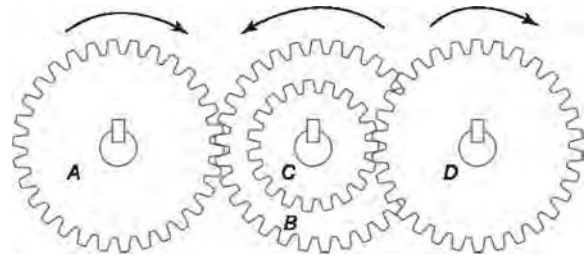

Figure 20.6
A **compound gear train** is shown in Figure 20.6, in which gear wheels *B* and *C* are fixed to the same shaft and hence $N_B = N_C$
Problem 8. A compound gear train similar to that shown in Figure 20.6 consists of a driver gear *A*, having 40 teeth, engaging with gear *B*, having 160 teeth. Attached to the same shaft as *B*, gear *C* has 48 teeth and meshes with gear *D* on the output shaft, having 96 teeth. Determine (a) the movement ratio of this gear system and (b) the efficiency when the force ratio is 6.
- A compound gear train is as shown in Figure 20.6. The movement ratio is 6 and the numbers of teeth on gears *A*, *C* and *D* are 25, 100 and 60, respectively. Determine the number of teeth on gear *B* and the force ratio when the efficiency is 60%. [250, 3.6]